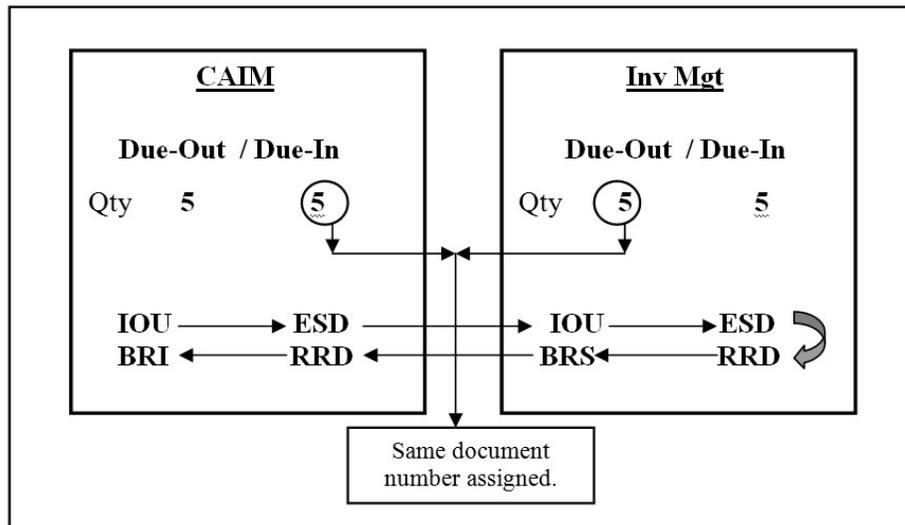

Figure 27. Logistics Unfulfilled Customer Requirement (Backorder Generated)
3. A due-out transaction is generated if LOG cannot fulfill the customer requirement. In this case, three transactions are written to Transaction History: the CAIM ESD, a due-out, as well as the LOG due-out. This indicates the item was ordered, but LOG could not fill the order internally. Item requests not fulfilled by LOG appear in LOG orders indicating the item must be purchased from the designated source. Once purchased, a LOG ESD (Due-In) is written to Transaction History (Figure 27).